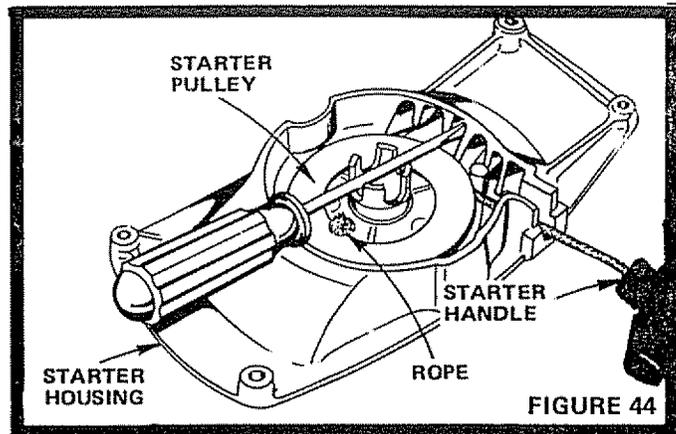

FIGURE 44
1. Remove 4 screws and remove Starter Housing (Fig. 44) from Saw.
- a. Pull Starter Handle until several inches of Rope are exposed (Fig. 44).
2. Untie Starter Rope knot at Starter Pulley (Fig. 44) and remove Rope.